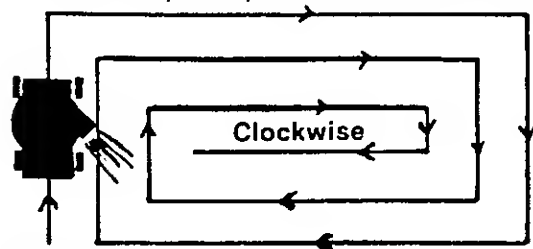

FIGURE 14.
- a. If you are going to remove clippings after you mow, start mowing at one side of your lawn and proceed around the lawn in a clockwise pattern. Using this pattern, the discharge chute will distribute clippings to a center spot for easier pick-up and removal. See figure 14.